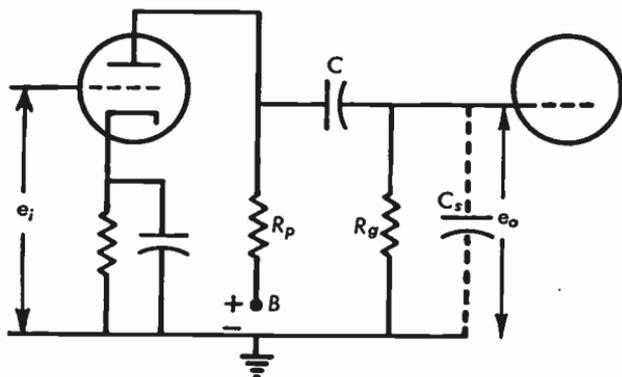

Fig. 5.01a Resistance-capacitance coupled amplifier stage.
5.01 In the resistance-coupled amplifier stage of Figure 5.01a, $R_p = 250,000$ ohms, $C = 0.01$ microfarad, $R_g = 1$ megohm, the effective shunt capacitance $C_s = 75$ micromicrofarads, the plate resistance $r_p = 240,000$ ohms, and the amplification factor $\mu = 65$. Calculate the voltage amplification at a frequency of 1000 cycles. Do not use formulas. Neglect the cathode resistor and capacitor.
5.02 Calculate the voltage amplification of the resistance-coupled amplifier stage of Figure 5.01a, problem 5.01, at a frequency of 11,800 cycles.
5.05 Using the formula derived in problem 5.04 calculate the medium frequency response of the resistance coupled amplifier stage of Figure 5.01a, problem 5.01.